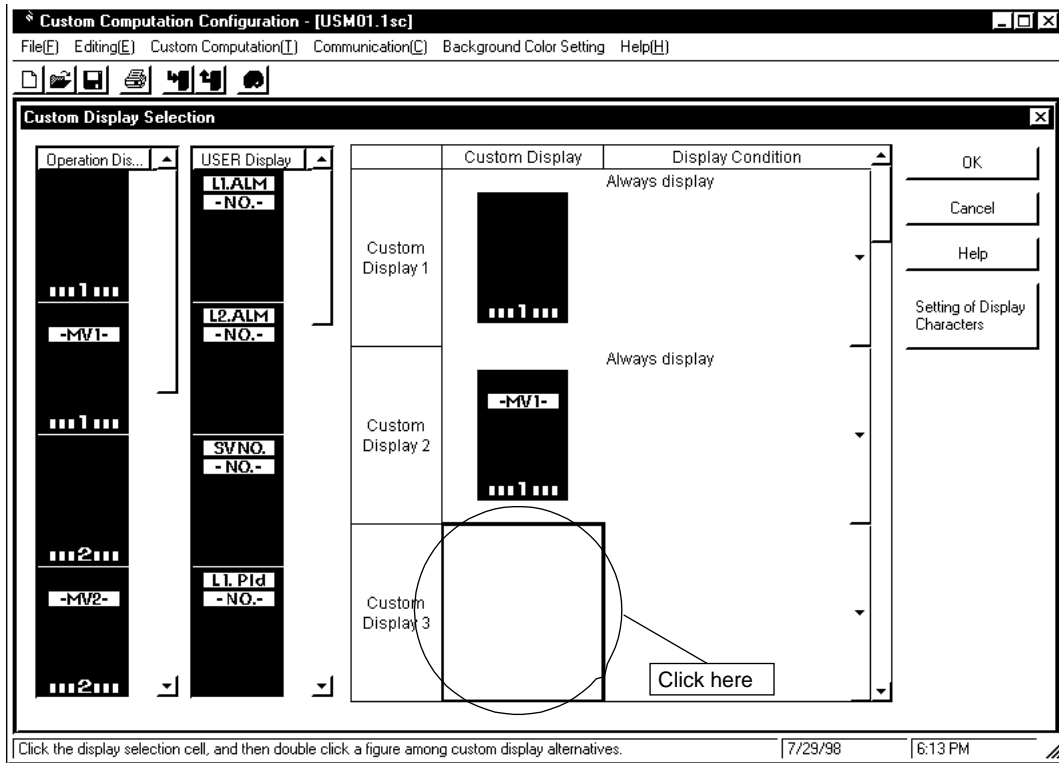

Figure 12.2.8 [Custom Display Selection] Dialog Box
- ① In the [Custom Display Configuration Menu] dialog box (Figure 12.0.2), click <Custom Display Selection>. The [Custom Display Selection] dialog box (Figure 12.2.8) for single-loop control appears.